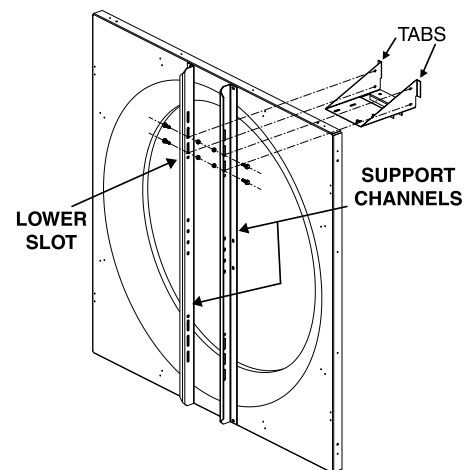

Figure 2
1. Remove the motor base and install the motor base in the two lower slots of the support channel as shown in Figure 2. The motor base has tabs that contact the support channel. Use the tabs to insure that the motor base is square with the support channel when tightening the motor base mounting bolts.